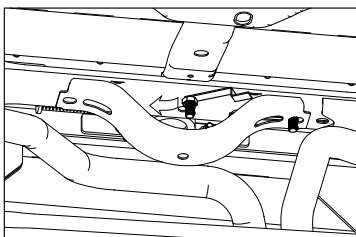

Figure F2: View under bed looking from floor to area above axle.
2. **Position the straps.** Using the straps install the bolt guides into the frame cross member just behind the axle, see Figures F2 & F3. The straps on the bolt guides will keep them from turning.